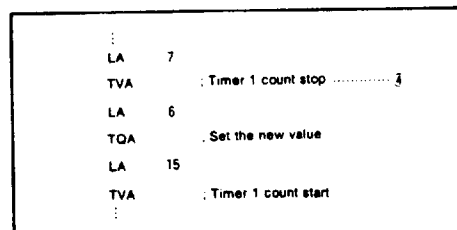

Fig.13 Example program-3
③ Notes on timer 1
When the count value of timer 1 is changed while it is counting, the first timing of timer 1 overflow just after the changing is unsettled. Therefore, change the count value while timer 1 is stopped (④)(see Figure 13).